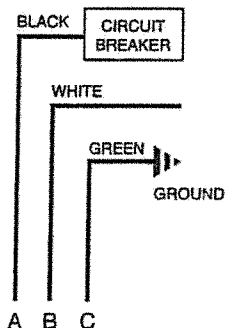

Fig. 17: Wiring Connections
**WARNING:** Using a multi-meter, check the following voltages at the circuit breaker panel prior to connecting any equipment. Make sure proper polarity is followed and house ground is proven. (See Fig. 17.)